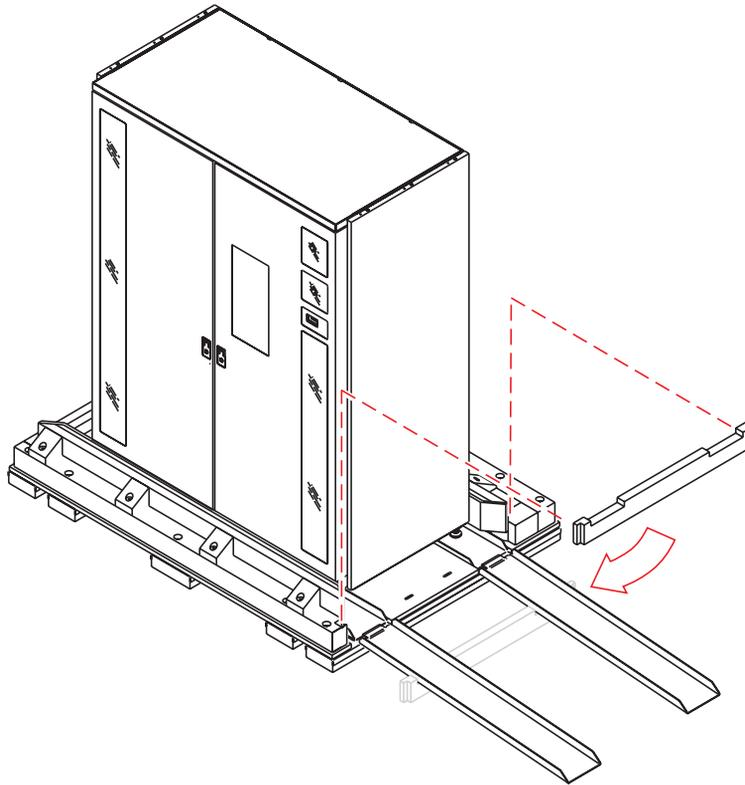

FIGURE 2-15 Removing the Wooden Bar
6. Move the wooden bar as shown in FIGURE 2-15.